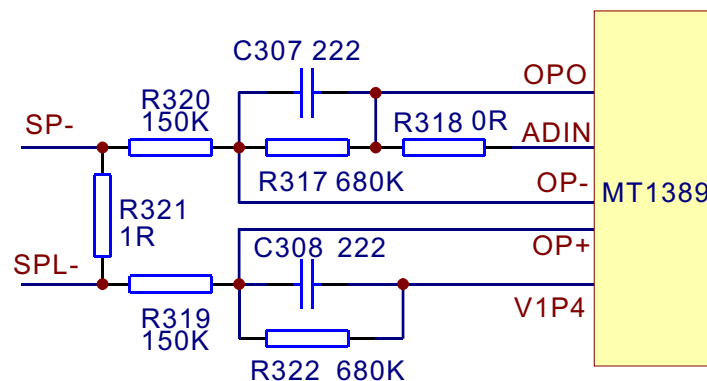

Figure 3.2.6.1 Main axis control circuit diagram
1. Main axis control circuit is shown in the figure 3.2.6.1: